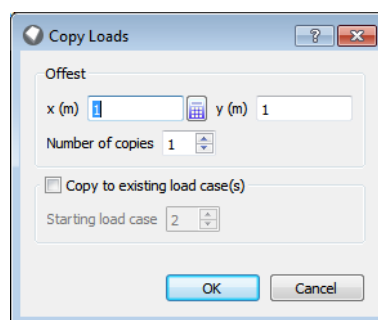

Figure 17.9: The LimitState:SLAB Copy Load Case dialog
- In the **Action** drop-down list at the base of the table, select **Copy**. The **Copy Loads** dialog will be shown Figure 17.9.